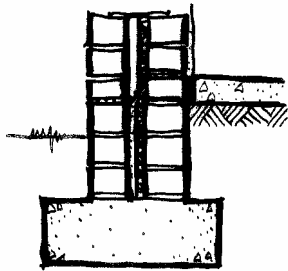
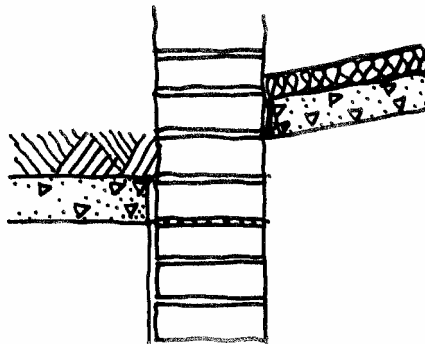
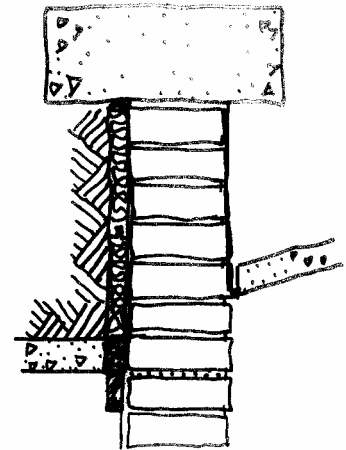

Figure 10.50 – Rigid insulation in foundation cavity wall with concrete filling
Figure 10.51 – Rigid closed-cell insulation under outside perimeter skirting
Figure 10.52 – Rigid closed-cell insulation on inside of foundation wall also insulation interior surface bed
- ❖ Install either in foundation cavity wall *Fig10.50* (with concrete filling), exterior to solid foundation wall *Fig10.51* or under skirting. *Fig10.52*